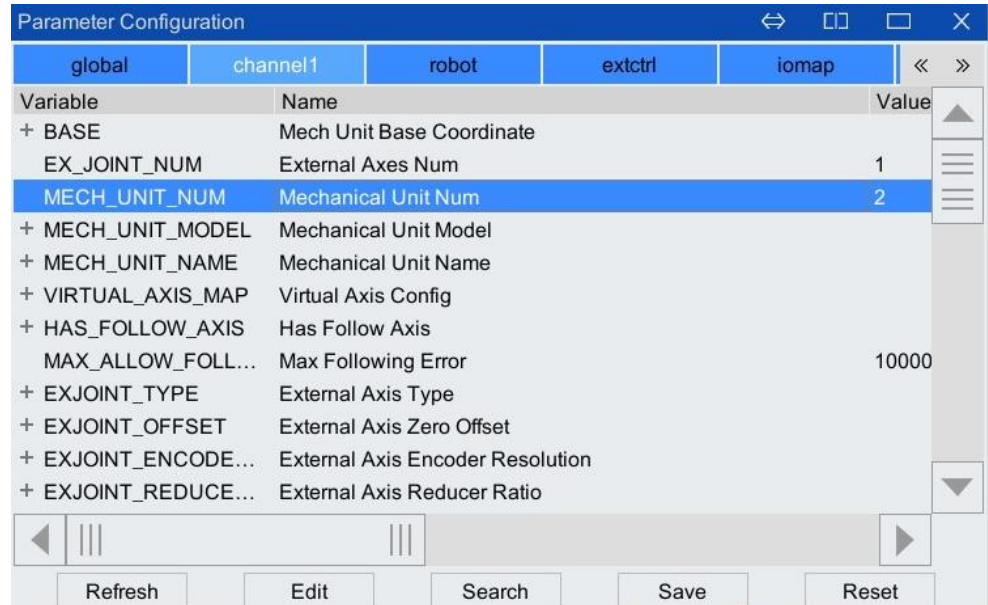

Figure 6-5 Mechanical unit number (MECH_UNIT_NUM) parameter configuration interface
- Step1. Select [System/Parameter Configuration/Channel] in the upper right corner of the teach pendant main interface, and you can see that the [MECH_UNIT_NUM] parameter value is "2". As shown in Figure 6-5.